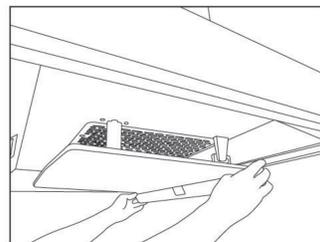

fig 1
1. Hold both ends of the oil cup with both hands, keep the oil cup horizontal, move out slowly toward the front direction of the range hood, take down the oil cup and then drain off the accumulated oil (Figure 1);